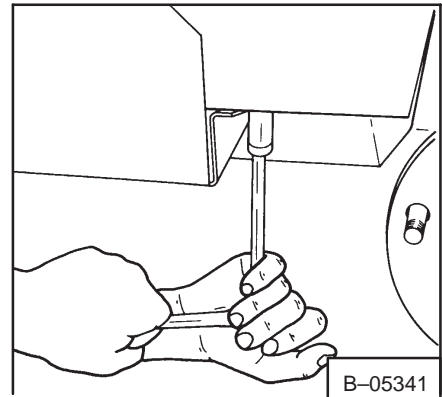

Fig. 3-32 Removing Cover Bolts
6. Remove the motor cover bolts (Fig. 3-32).
3. Remove the motor cover bolts (Fig. 3-32).